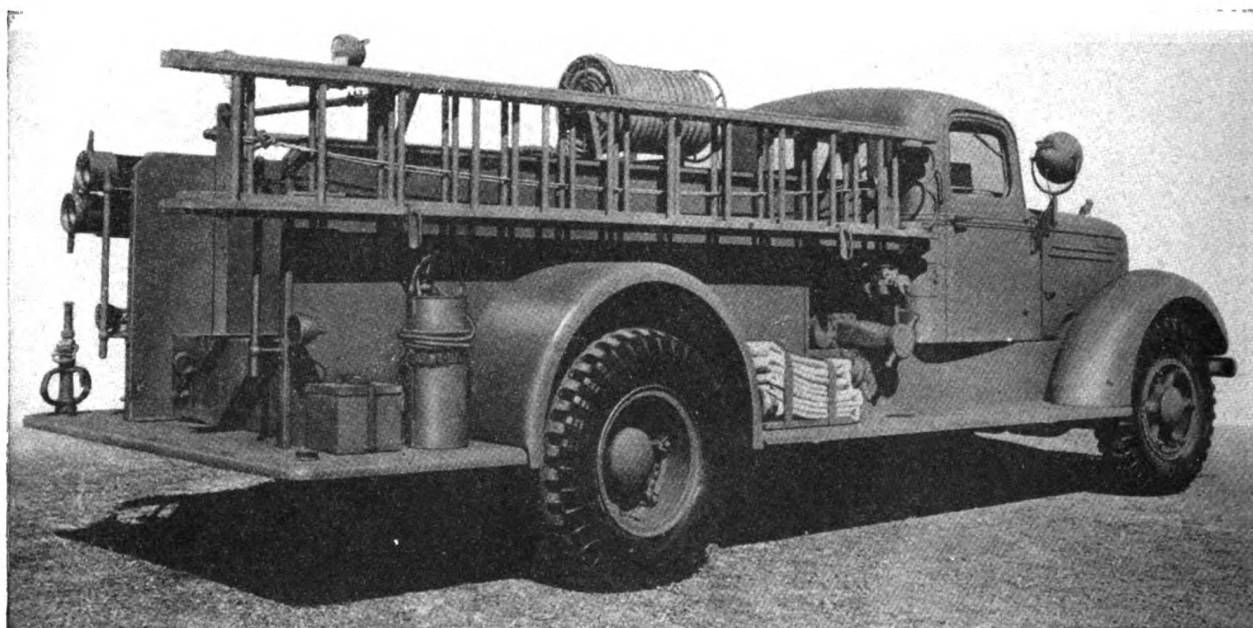

Figure 1. Class 750 fire truck, 4 x 2 chassis. (Stock No. 58-9120.952-750.)
*a. GENERAL.* (1) *Chassis.* Truck-mounted fire apparatus may have a military or commercial type chassis. The military type is specially designed to meet the needs of military service. It is used for smaller types of apparatus and is assigned to areas where roads may be bad and cross-country travel necessary. The commercial type chassis is a standard commercial truck chassis adapted to fire service by addition of a fire pump and special fire department body, or of a type built specifically for fire service.
*b. CLASS 750 FIRE TRUCK.* The class 750 fire truck (fig. 1), the largest pumping unit supplied by the Corps of Engineers, is the same general type as apparatus found in municipal fire departments. Because of its large capacity, 750 gpm assignment, is normally confined to major installations where large quantities of water and powerful streams are needed. The unit consists of a 4x2 truck with 150- to 200-horsepower (hp) engine carrying a midship-mounted fire pump, a booster water tank, hose body, and standard fire-fighting equipment prescribed in Set Number ENG 6 485-15.